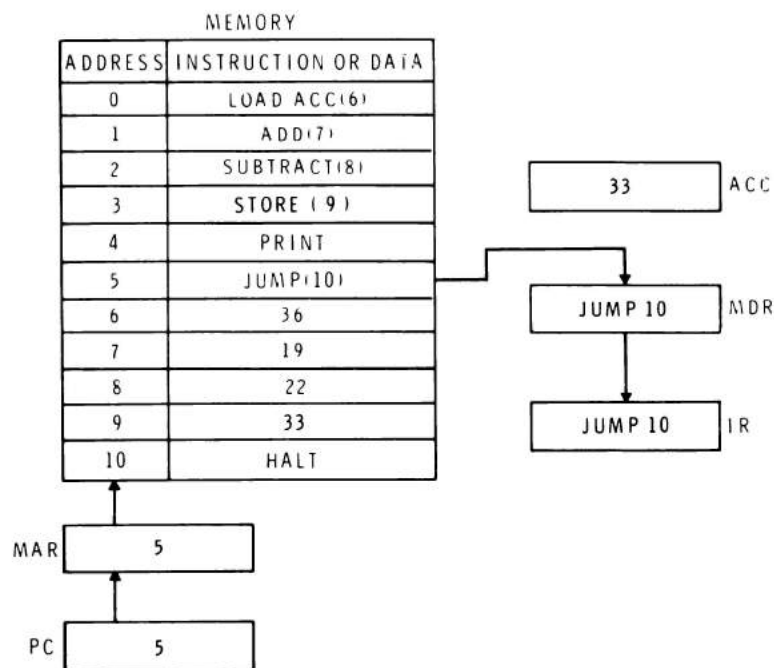

Figure 6-15
The sixth instruction in sequence is a JUMP(10) instruction that causes the normal sequence of program executions to change. The jump instruction tells us not to execute the contents of the next memory location in sequence. Instead, it tells us to take the next instruction from memory location 10. You can see by referring to Figure 6-15 that the contents of the next memory location in sequence (address 6) contains a data word.